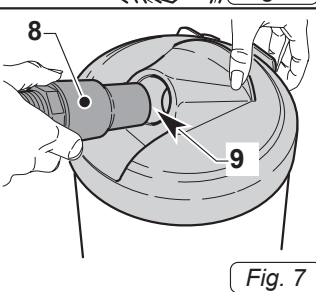

Fig. 7
- Insert the end of the vacuum hose (8 Fig.7) into the air suction hole (9 Fig.7).